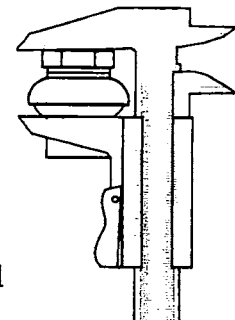

Fig. 12
Step 2 - Measure the upper stack by assembling and holding together the upper headrace, bearing retainer, adjustable race, spacer(s) and locknut (figure 12). If you earlier removed a reflector bracket, cable hanger, or other accessory item from underneath the locknut, include it as well. Measure from the top of the locknut to the head tube seat of the upper pressed race. Again, you are measuring only the parts that would be fully visible if the upper stack were installed into the head tube. Measure in millimeters to the nearest 0.1 mm.